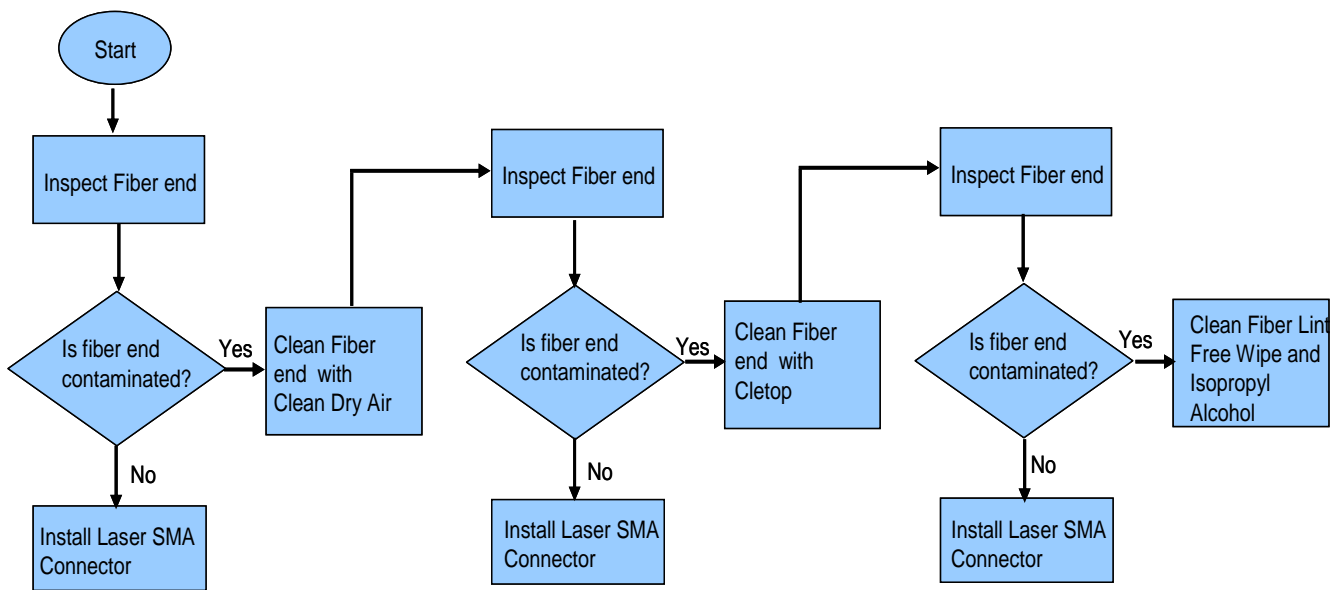

Figure 9: Fiber Cleaning Process Flowchart
- Follow the fiber inspection and cleaning process (Figure 9) before making a laser fiber SMA connection.